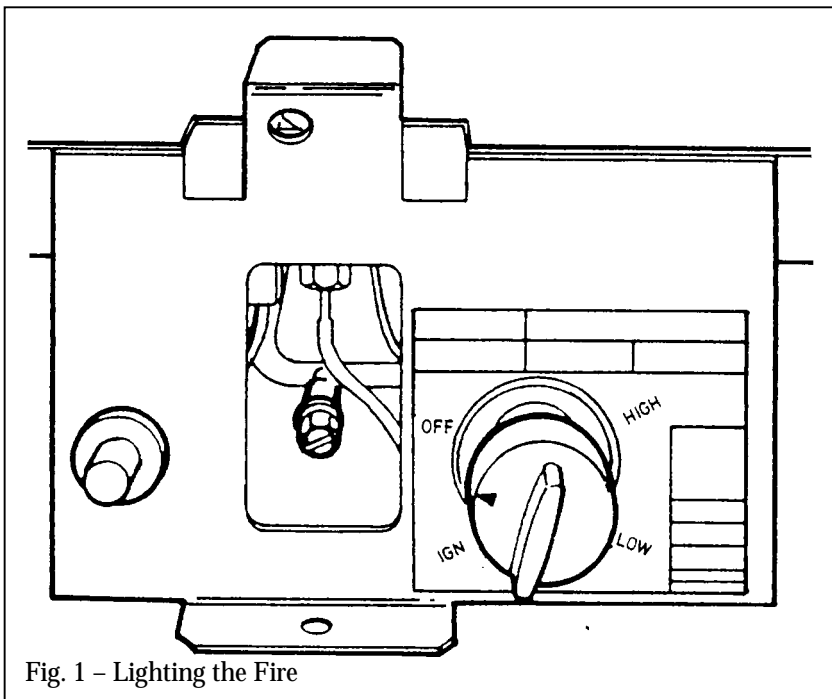

Fig. 1 – Lighting the Fire
3. On no account must the fire stand on carpets or other combustible materials. The fire must stand behind a non-combustible hearth surface. The hearth material must be at least 12.5mm thick. Its top surface should be 50mm above floor level to discourage placing carpets. Rugs or other combustible materials over the hearth. The minimum size of the hearth is shown in figure 1.
When the pilot burner is operating properly, gradually turn the control knob anti-clockwise to HIGH (Depress the knob slightly to get past the LOW position). The main burner should now light. Depress the control knob slightly to release from the HIGH position and turn back (clockwise) to LOW. While turning, the burner flames should gradually become lower but remain alight. Depress the control knob slightly to release from the LOW position and turn back (clockwise) to IGN. The main burner should extinguish but the pilot should remain alight. Depress the control knob slightly and turn back (clockwise) to turn OFF this will extinguish the pilot. See fig 1.